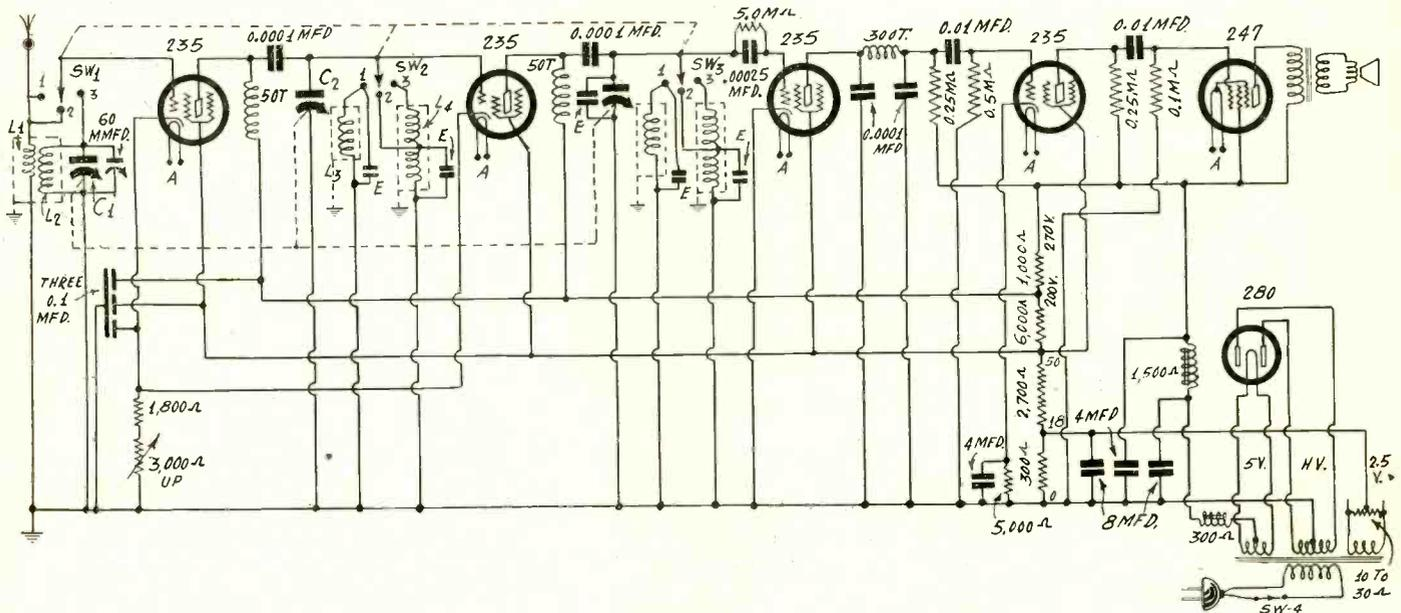

FIG. 1
The output of the converter may be closely or loosely coupled to the set. Which method to use depends on the type of load on the intended antenna circuit of the set. Of course when the converter is used the antenna is loaded on that, and the set's input takes the converter's output. Therefore the question arises which type of coupling gives the better results, and two posts on the converter will enable you to make your own trial, and permanently connect set antenna post to the position that gives better results. An arrow in Fig. 1 designates the choice.
**T**HE coil switching arrangement of the all-wave midget diagrammed in Fig. 1 has not been heretofore presented, and it is one embodying commendable features.
The tuning coils used in the present circuit are shielded. It is therefore possible to get some stability on short waves, although it should be remembered that for the required sensitivity it is advisable that some regenerative effects be present, though under control. The volume control that affects the grid bias takes care of that. The only uncertainty surrounds the value of the limiting resistor in the common cathode leads of the radio frequency amplifiers, which are 235 variable mu tubes. This is marked as 1,800 ohms on the diagram, Fig. 1, and the resistance should be increased to such value as will get rid of oscillation on the broadcast band. Then there will be some oscillation, under control, however, on the short-wave bands.